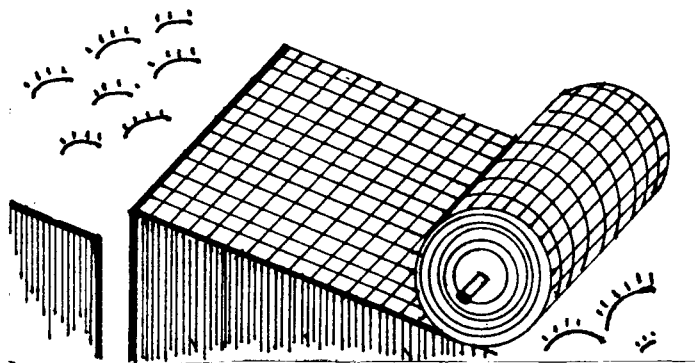

Fig. 1 Anchor Slotting of Coir Netting
Bury up the channel end in trench to 6" deep. Fix coir netting using staples (ref. 3.3) at 6" intervals as shown in figure 1.